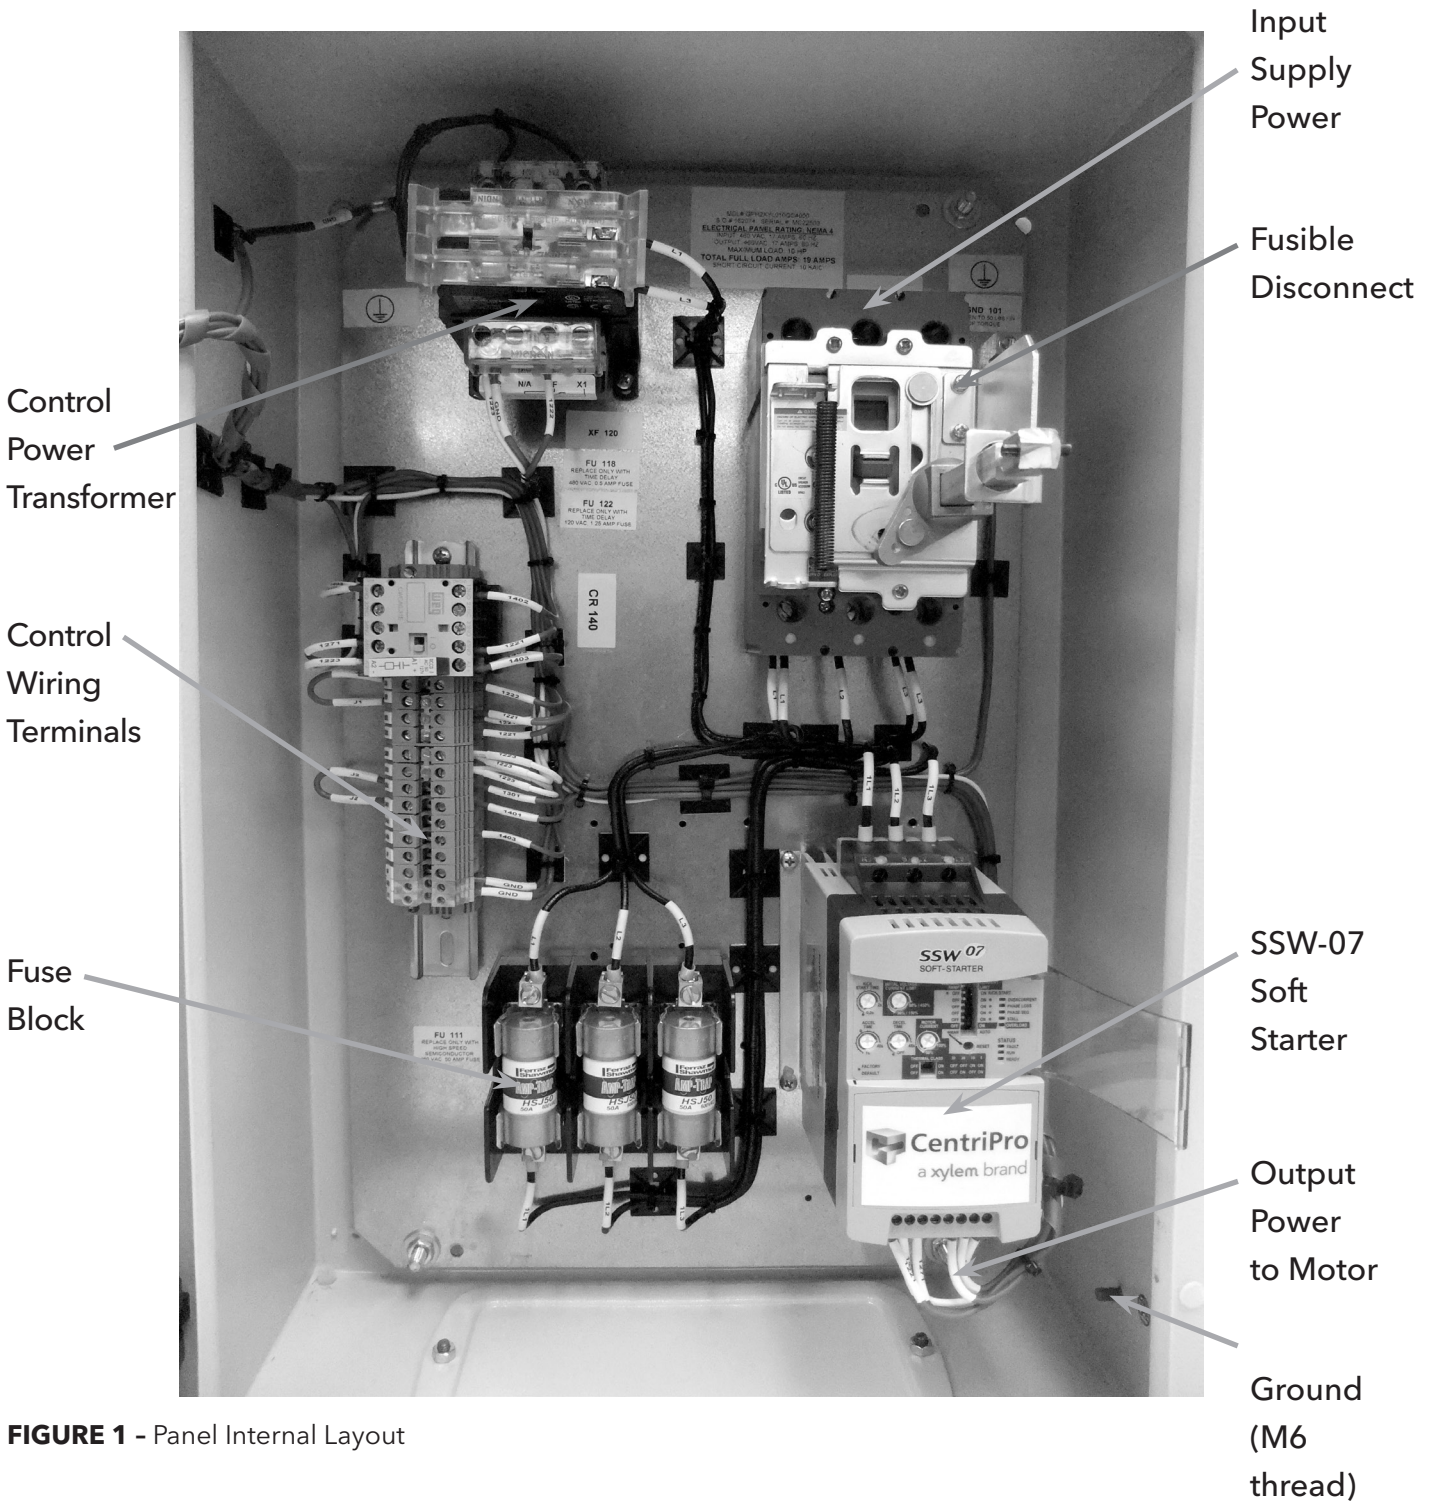

FIGURE 1 - Panel Internal Layout
2. Connect the three-phase incoming power leads to the R, S, and T connections on the power terminal (refer to Figure 1). Connect the motor leads to the U, V, and W connections on the power terminal and connect the GROUND lead to PE \perp on the chassis (refer to Figure 1). **Note:** Only three-phase AC motors can be used.